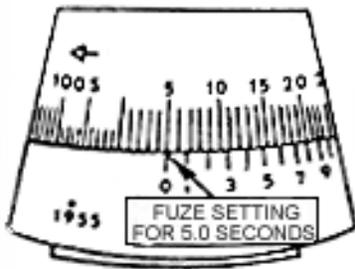
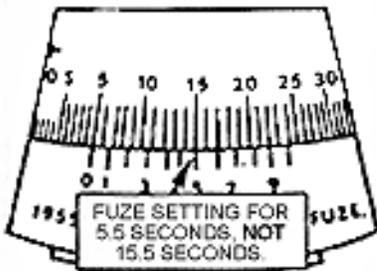
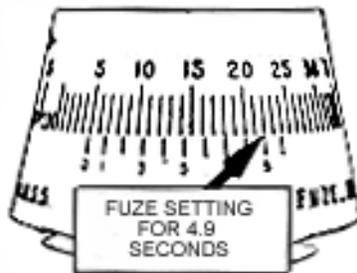

Figure 3-14 Whole
Figure 3-15. 1/10 second settings
Figure 3-16. 4.9 second setting
tenths of a second), turn the upper scale clockwise in the direction of the arrow (Figure 3-13). Turn until the graduation for the desired whole second on the upper scale is aligned with the 0 graduation on the vernier scale (Figure 3-14). Observe on the upper scale the graduation for the desired tenth of a second on the vernier scale. Continue to turn the lower cap until the observed graduation on the upper scale is aligned with the graduation for the desired tenth of a second on the vernier scale (Figure 3-15). For example, if the desired time setting is 5.5 seconds, turn the lower cap until the 5 graduation on the upper scale is aligned with the 0 graduation on the vernier scale (Figure 3-14). Observe that the 15 graduation on the upper scale is immediately above
f. **M63 fuze setter.** Whole-second settings are made with the M63 by placing it over the fuze so the socket engages the two lugs on the cap. The upper scale is the only moveable part of the fuze and rotates over the vernier scale on the fuze body. Turn the upper scale clockwise until the mark representing the desired time, setting is aligned with the 0 mark on the vernier scale (Figure 3-14).
(1) Fractional second settings. Safe setting for fractional second settings (in
and to the right of the 5 graduation on the vernier scale. Continue to turn second setting. the upper scale until the 15 graduation on the upper scale is aligned with the 5 graduation on the vernier scale. The desired time of 5.5 seconds is now set on the fuze (Figure 3-15). Note in Figure 3-15; the only place the upper scale and the vernier scale align is at 15 on the upper scale and at 5 on the vernier scale. Now, look at Figure 3-16 and the setting for 4.9 seconds. Again, notice 9 on the vernier scale and 22 on the upper scale are the only places the two scales align.
(2) Setting the fuze to safe. If the fuzed projectile is prepared for firing but is not fired, place the M63 fuze setter back on the fuze. Realign the S mark on Figure 3-16. the upper scale (MA on the M563 fuze) with the 0 mark on the vernier scale